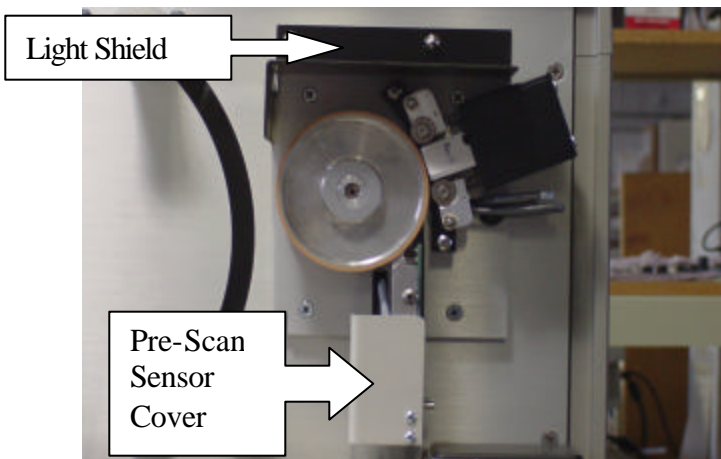

Figure B1
- 1) Remove the Pre-Scanner Light Shield by removing the two Knurled Knob Nuts holding it in place. Set aside. See Figure B1.
- 2) Remove the Pre-Scan Sensor Cover by removing the two screws. Set aside. See Figure B1.
- 5) Install the Pre-Scan Sensor Cover using the two screws. See Figure B1.
- 6) Install the Pre-Scanner Light Shield by using the two Knurled Knob Nuts. See Figure B1.